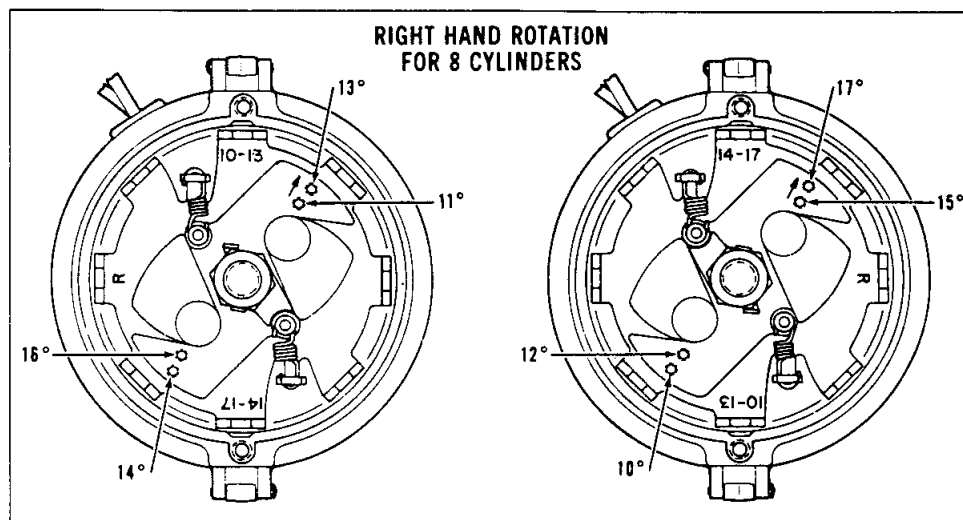

FIGURE 1
4. By using the diagram (Figure 1 & 2) determine which hole the stop screw should be located in and which direction the arrow should be pointed for your distributor advance specifications. Example: If you require advance of 14° and your distributor is right hand rotation, (clockwise), the stop screw would be placed in the bottom hole marked 14° and the "S" plate will be installed with the arrow pointing to the 10°-13° indication on the stop bracket.